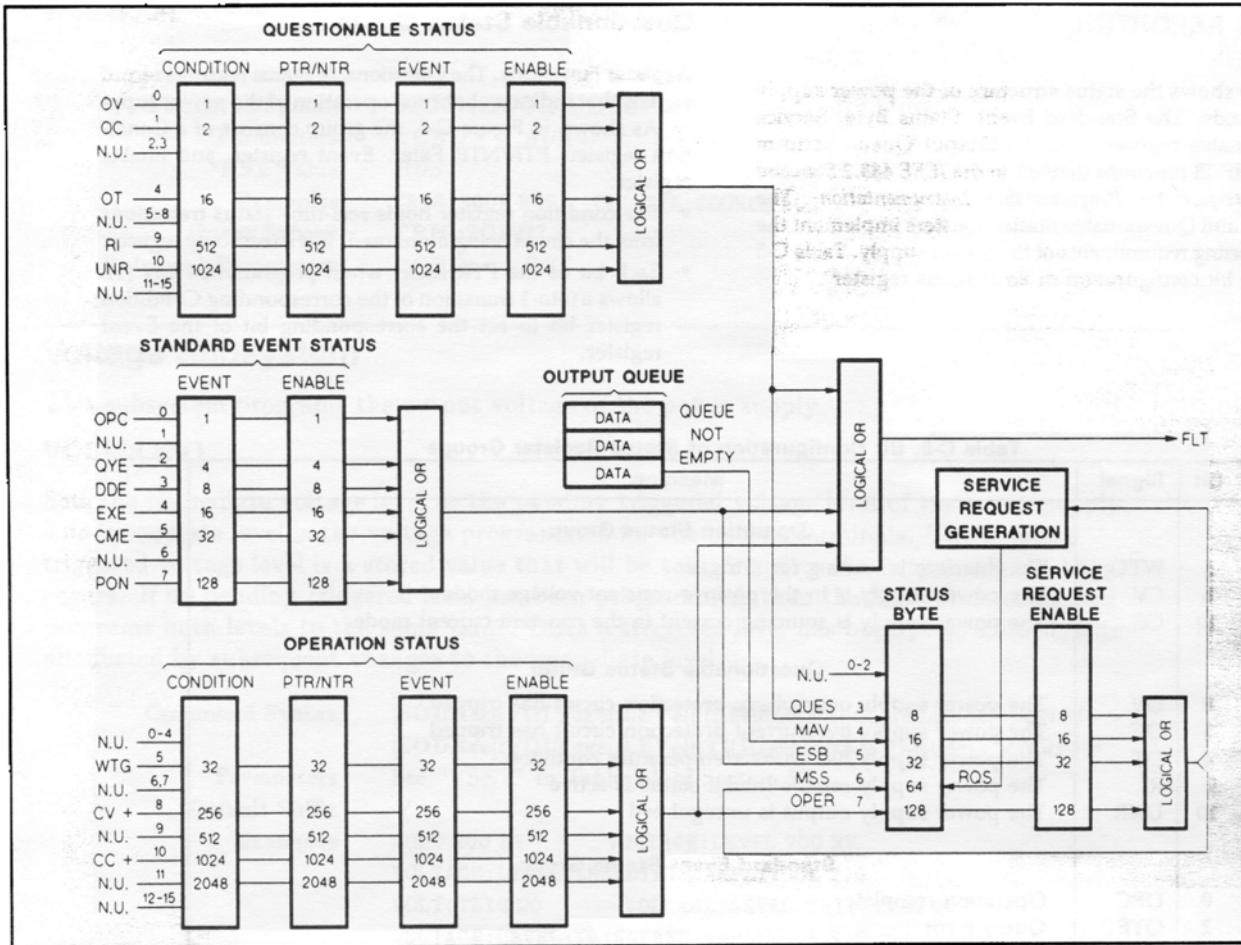

Figure C-4. Power Supply Status Structure
Figure C-4 shows the status structure of the power supply in SCPI mode. The Standard Event, Status Byte, Service Request Enable registers and the Output Queue perform standard HP-IB functions defined in the *IEEE 488.2 Standard Digital Interface for Programmable Instrumentation*. The Operation and Questionable Status registers implement the status reporting requirements of the power supply. Table C-5 shows the bit configuration of each status register.
Register Functions. The Questionable Status registers record signals that indicate abnormal operation of the power supply. As shown in Figure C-4, the group consists of a Condition register, PTR/NTR Filter, Event register, and Enable register.
to enable specific conditions. Refer also to Figure C-4.
Register Functions. The Operation Status registers record signals that are part of the power supply's normal operation. As shown in Figure C-4, the group consists of a set of registers similar to the Questionable Status group. The output of the Operation Status group is logically-ORed into the OPER(ation) summary bit (7) of the Status Byte register.